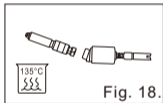

Fig. 18.2
- Autoclavable up to a max. 135°C (EX.) Autoclave for 20 min. at 121°C or 15 min. at 132°C (Fig. 18.2/18.3).